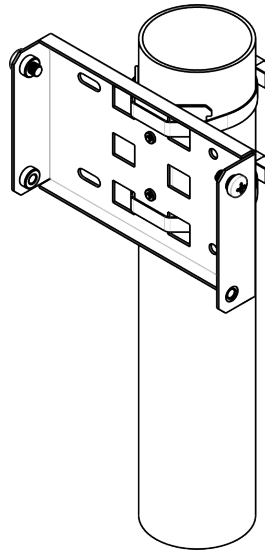

Figure 9 – Mounting bracket on a mast/pole
a. Fix bracket on mast/pole by using clamps, see Figure 9.
b. Install DIN7985 M6 screws in the top holes. Do not screw them fully. Leave at least 3 mm gap, see Figure 9.